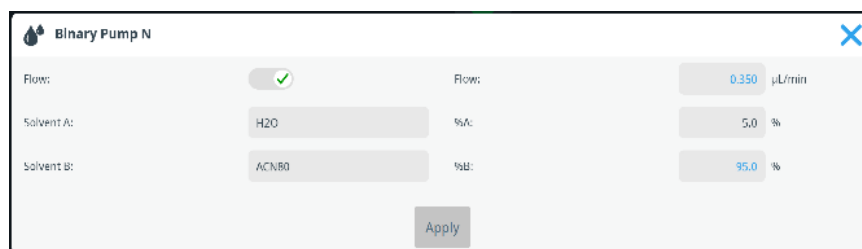

Figure 10: Vanquish Neo Binary Pump direct control panel
The Direct control (DC) panel can be accessed by clicking on the respective module box. Whereas the box shows the current value, the DC window typically shows the nominal value. The direct control options available for the Vanquish Neo Binary Pump are shown in Figure 10 below.